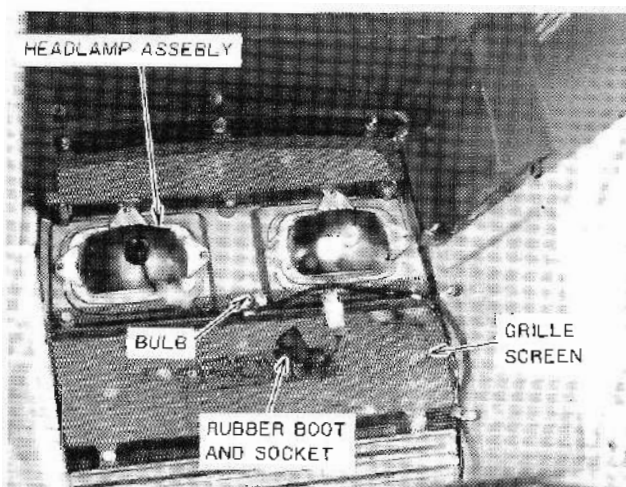

Figure 62 - Headlamp Assembly
3. Slide rubber boot back off the lamp socket, Figure 62.